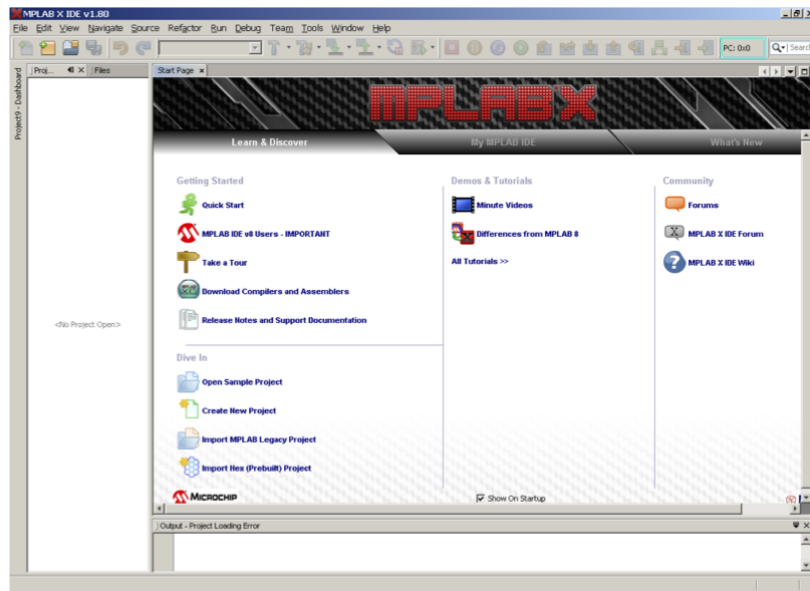

Figure 5: MPLAB ® X IDE window
1. Launch the MPLAB ® X IDE by selecting the MPLAB ® X icon on the PC desktop. Initially, a window for a blank project page as shown in Figure 5 will appear.